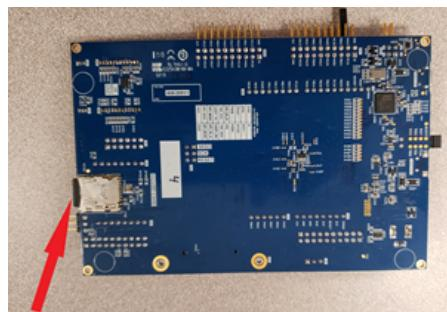

Figure 1: SD Card slot on bottom of SAM E54 Curiosity Ultra Board
- Insert a micro SD card into the slot on the bottom side of the board as shown in Figure 1. The contacts of the micro SD card should be facing the bottom side of the board.